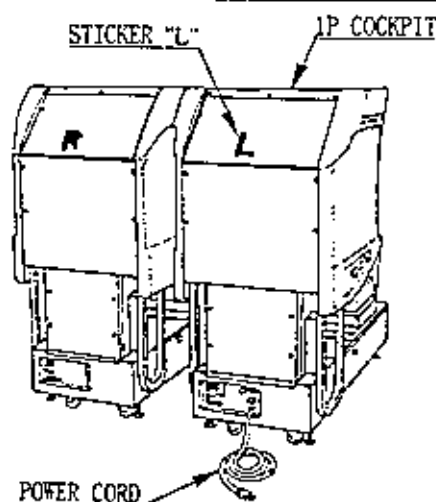

FIG. 6.1
- ① Place the two cockpits side by side. Position the 1P cabinet which has the power cord at the left-hand side as viewed facing the monitor. STICKER "L" is attached on the back of 1P cabinet, and STICKER "R" on the back of 2P cabinet (Fig. 6.1).